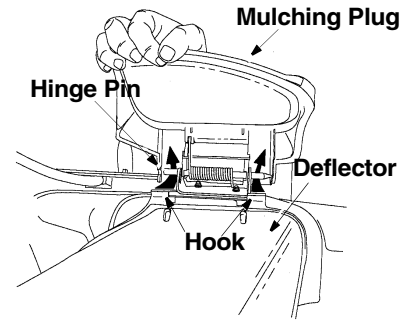

Figure 9
- On the right side of the mower, lift the mulching plug. See Figure 9.